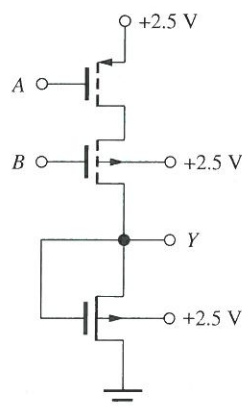

Figure P6.156
- 6.156. What is the logic function Y for the gate in Fig. P6.156?